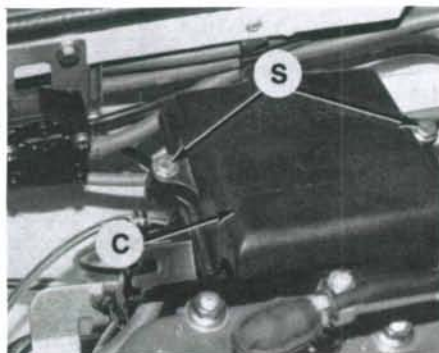

Fig JS3-15—Remove two cap screws (S) to withdraw cover (C) and flame arrestor.
FLAME ARRESTOR. A flame arrestor is located beneath cover (C—Fig. JS3-15). Every 25 hours or more frequent if needed, remove two cap screws (S) and withdraw cover and flame arrestor. Inspect flame arrestor for contamination and use clean compressed air to blow clean. Renew flame arrestor if damage is noted. Install flame arrestor while making sure gasket is located beneath flame arrestor. Apply Loctite Lock N'Seal or a suitable equivalent on threads of the two cap screws (S) retaining cover (C) and securely tighten.